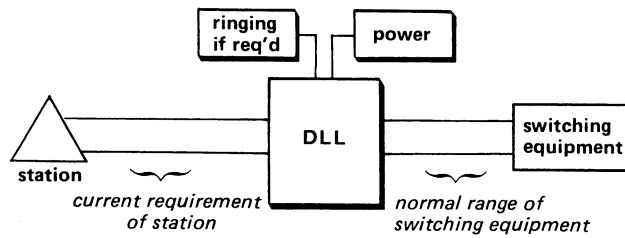

figure 3. Single DLL range limits
2.06 When a single 7001(A) is used (see figure 3), the maximum distance from the station to the 7001(A) depends upon the current requirements of the station. The maximum distance from the 7001(A) to the switching equipment depends upon the range of the switching equipment.